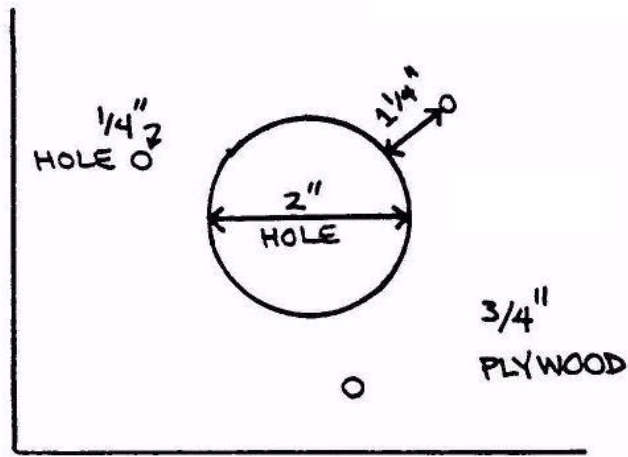
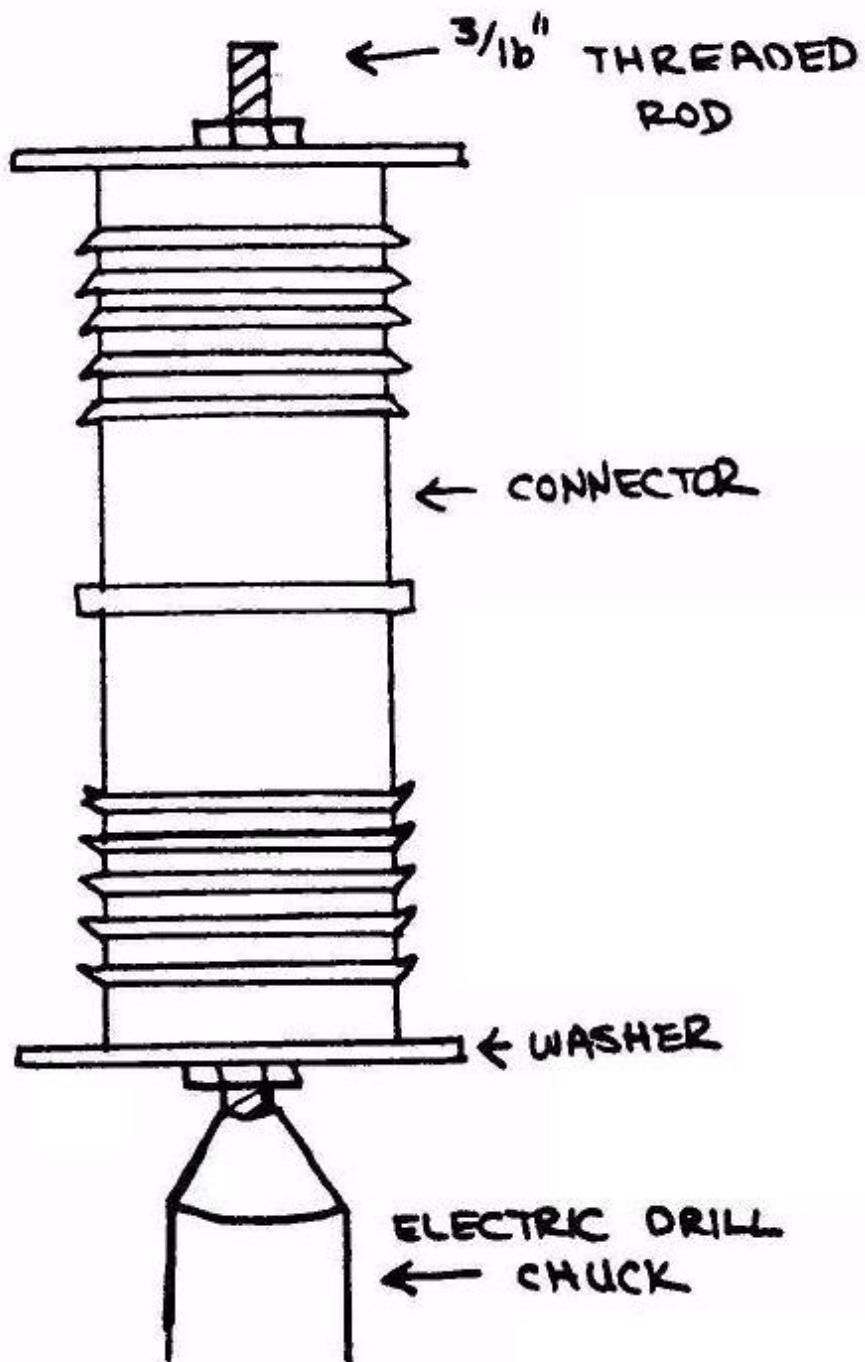

FIGURE 1
FIGURE 3
**SPRING REMOVAL AND REFITTING** - An easy, inexpensive and safe way to remove springs from shock absorbers is shown in Figures 1 and 2. Tightening up on the three nuts marked "A" (only one of which is shown in the diagram) compresses the spring, allowing the spring retaining collar to be removed. The "A" nuts are then loosened until the spring is fully extended, and, finally, removed to allow the spring (with the three rods still attached) to be removed from the shock. Position the new shock in the hole and reverse the foregoing procedure. One hint: When installing the springs on the new shock, be sure the upper and lower shock mounting 'eyelets' are parallel before releasing spring tension onto the repositioned spring-retaining collar.
**PREVENTING BOWING OF SPRING** - The body of Koni shocks is smaller in diameter than the stock shock absorber, which itself has a diameter very close to the inside diameter of the coil spring. The narrower Koni body allows the spring to bow when it is compressed, which causes it to rub on one side of the body of the shock. This problem can be remedied by adding a 'sleeve' over the body of the Koni shock to increase its diameter to just under the inside diameter of the spring. There are undoubtedly a number of ways to do this: the following is what I came up with. At a hardware store look for the indoor household plastic plumbing pipe section, and, specifically, for the plastic connectors used to join two straight pieces of pipe. These are about 6 inches long and come in a variety of diameters. Take your Konis with you and select a connector with an inside diameter that will fit over the body of the shock absorber. I found that there were two such connectors: one a loose fit, and one a very tight fit (more on this, later). The outside of these connectors have a series of serrated rings around them, making them too large to fit inside the coil spring. However, they may be easily 'turned down' by using a hand-held electric drill as shown in Figure 3. Mount a coarse file or rasp in a vise and grind away - the plastic is soft - until it slides easily inside the spring. (Note: In lieu of the top washer in Figure 3, the 2 inch diameter piece of plywood cut out in Figure 1 may be used. This will fit inside the spring and allow you to check whether the connector has been turned down sufficiently without having to remove it from the drill.)